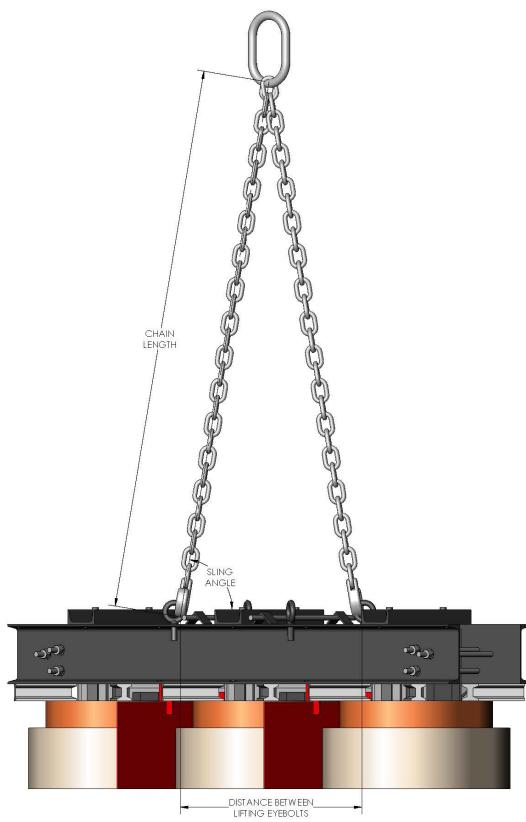

FIGURE 6
5. Ensure that the sling angle is greater than 80 degrees (see figure 6 & table 1).